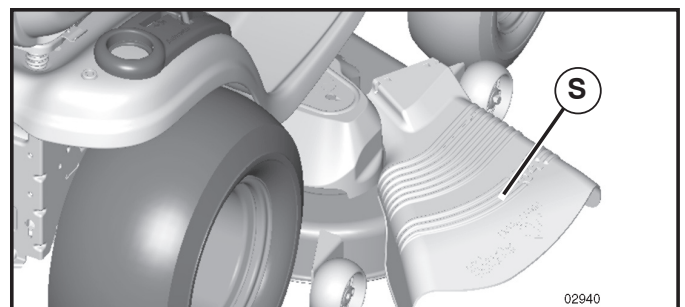

FIG. 10
CAUTION: Do not operate the mower without either the entire grass catcher, on mowers so equipped, or the deflector shield (S) in place (See Fig. 10).